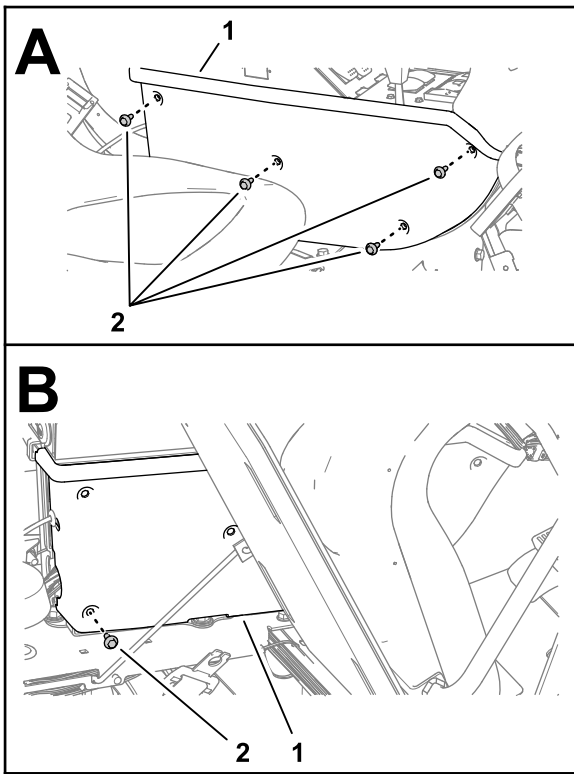

Figure 179
1. Assemble the side panel to the console frame (Figure 179) with 4 flange-head capscrews (1/4 x 3/4 inch).
2. Tilt the seat forward and install the lower rear flange-head cap screw (Figure 179).